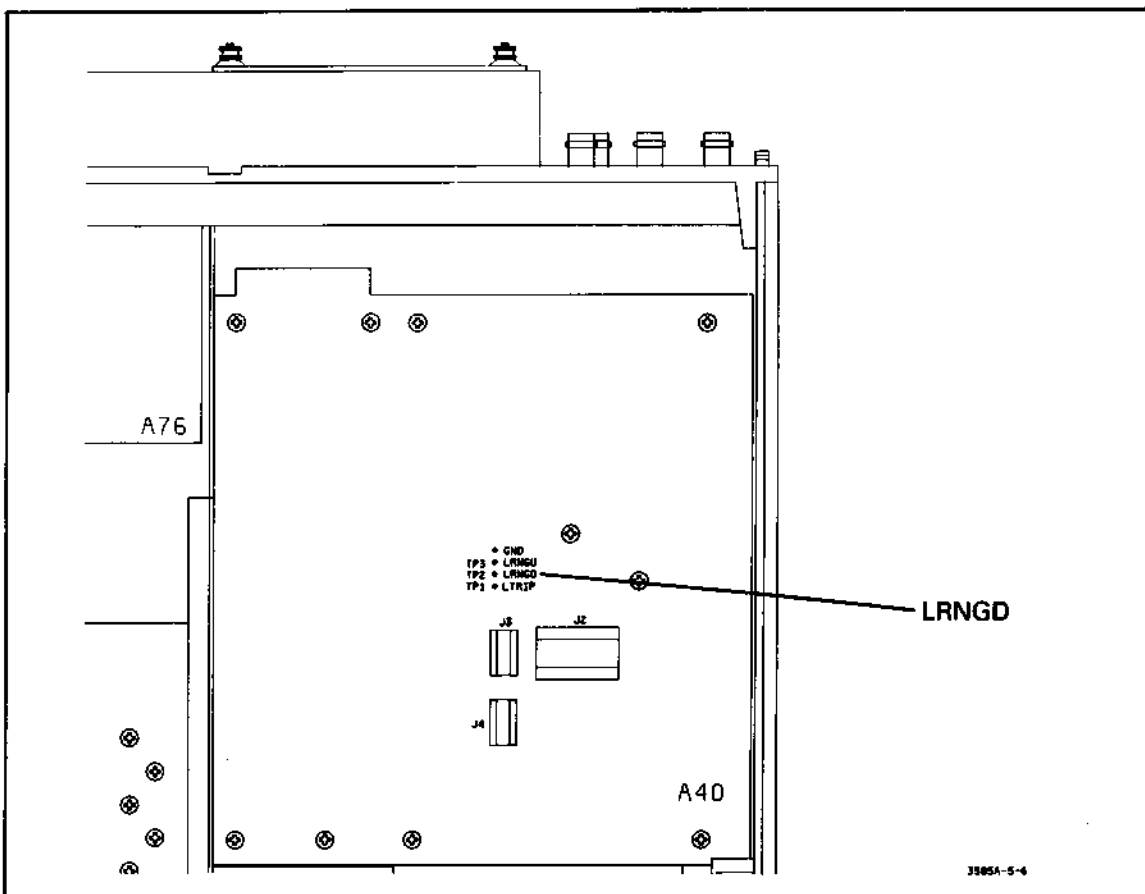

Figure 5-41. Range Down Monitor Point (LRNGD)
c. Connect a dc voltmeter (10V range) to the Digital motherboard, pin A45B19 or A40TP2 ('L' RINGD). This is accessible from the bottom of the instrument as shown in Figure 5-41.